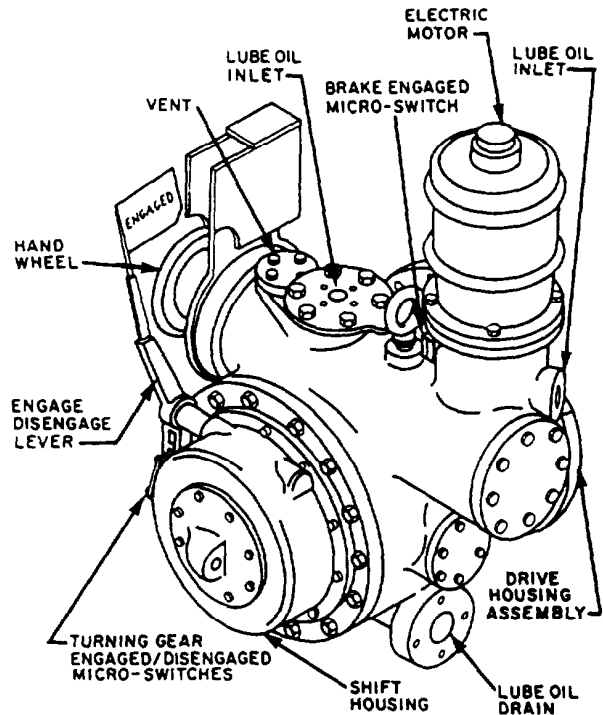

Figure 8-11.—Turning gear assembly (FFG class ships).
**FFG CLASS SHIPS.**—Figure 8-11 shows the turning gear assembly on the FFG class ships. It is mounted on the aft end of the port HS pinion. It has a shift lever for engagement or disengagement. Two microswitches associated with the shift lever provide electrical signals to the propulsion control console (PCC) and the local operating panel (LOP) when the shift lever is engaged or disengaged.